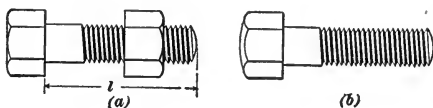

FIG. 43.
**96.** In **machine bolts**, or **bolts**, for short, one of which is shown in Fig. 43 (a), the shank and head are left rough, or just as they come from the bolt-heading machine. Machine bolts are regularly made in lengths varying by
half inches from  $1\frac{1}{2}$  to 8 inches. Above 8 inches and up to 20 inches the length varies by whole inches. The length of a machine bolt is always measured under the head, as the distance  $l$  in Fig. 43 (a).
**98.** **Capscrews**, one of which is shown in Fig. 43 (b), are bolts with either hexagonal or square heads; they have the shanks turned and the heads finished all over by milling and turning. Unlike machine bolts, they are usually furnished without nuts, unless especially ordered.